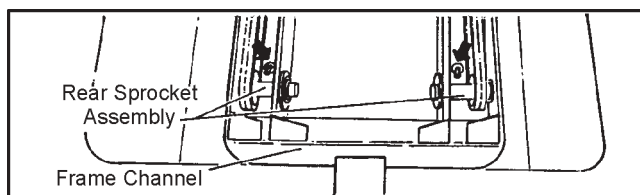
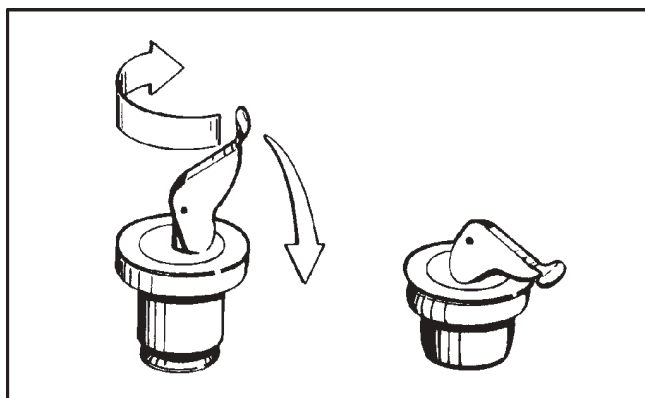

Figure 5-1. Location of rear drain plugs
Figure 5-2. Tightening and locking the drain plugs
3. Lift the rear floor pan and make sure both drain plugs in the rear of the lower body (Figure 5-1) are in place and properly tightened. To install, seat the rubber portion of the drain plug properly in the lower body hole and push the lever down to lock plug in place (Figure 5-2). Check that the plug is firmly in place. To tighten the drainplug, lift the lever up and turn the lever clockwise until it is snug when the lever is pushed down. Replace worn or inoperative drain plugs with ARGO Part No. 100-18.